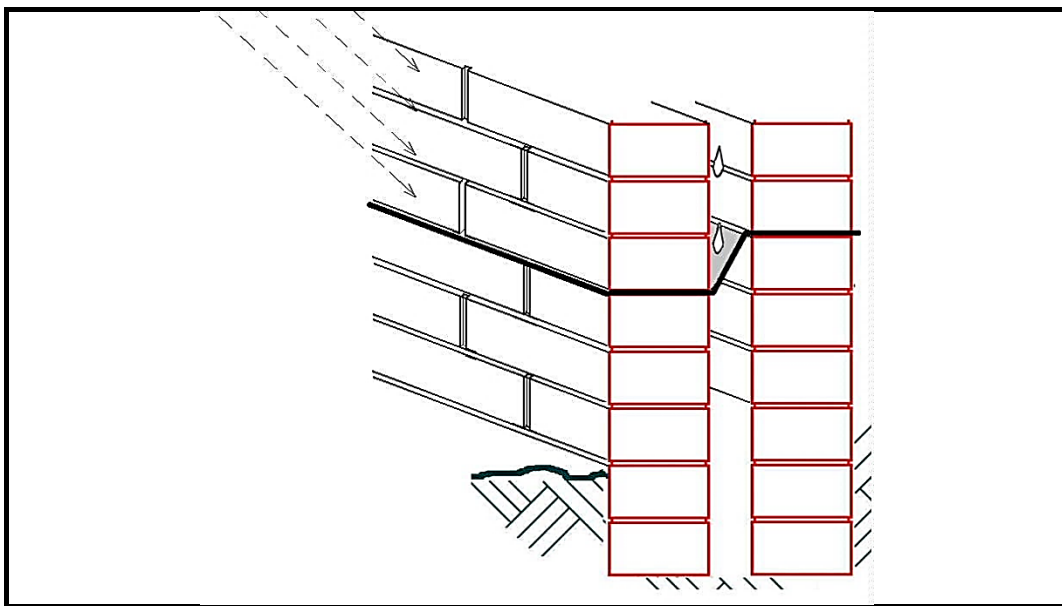

FIGURE 1.4
1.4 FIGURE 1.4 shows the brickwork for an outer wall. Answer the following questions with regard to the brickwork in FIGURE 1.4.